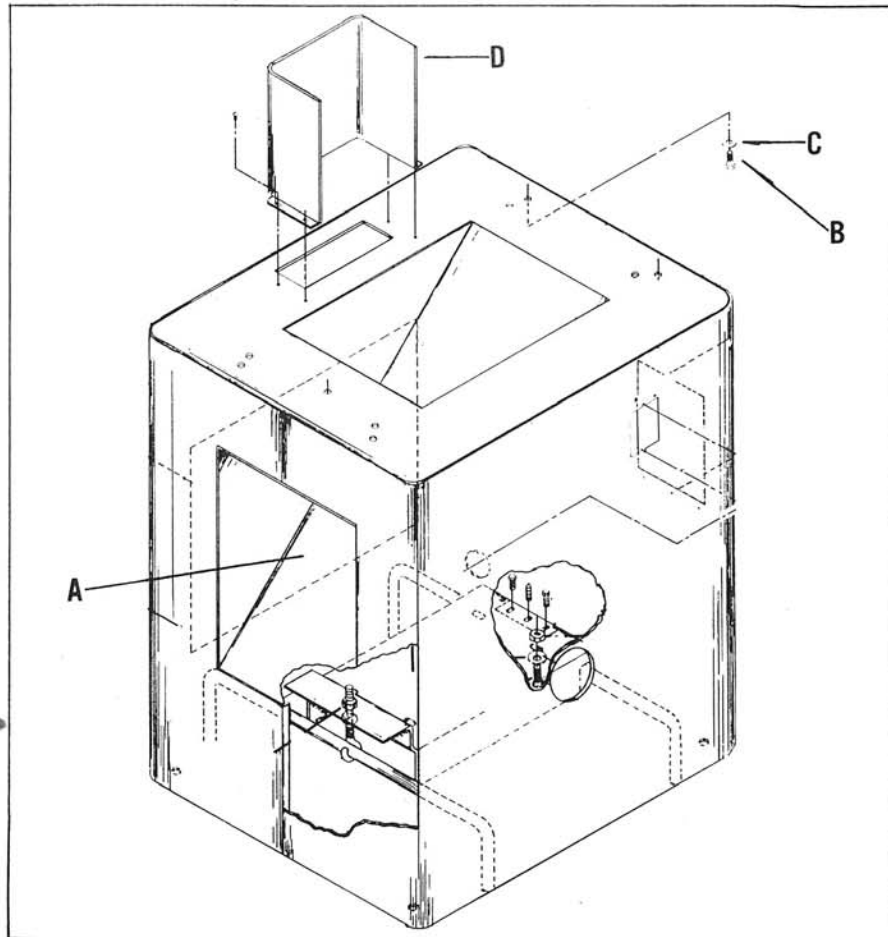

Fig. 2
1. Place the jointer on the stand with the dust chute opening (A) Fig. 2, underneath the out-feed table of the jointer.
2. Fasten jointer securely to the stand using the four bolts (B) and lockwashers (C) supplied. The bolts (B) Fig. 2, go up through the stand into the tapped holes in the jointer base.
4. Place the V-belt on the pulleys and assemble the belt and pulley guard (D) Fig. 2, to the jointer stand using the four self-tapping screws supplied.